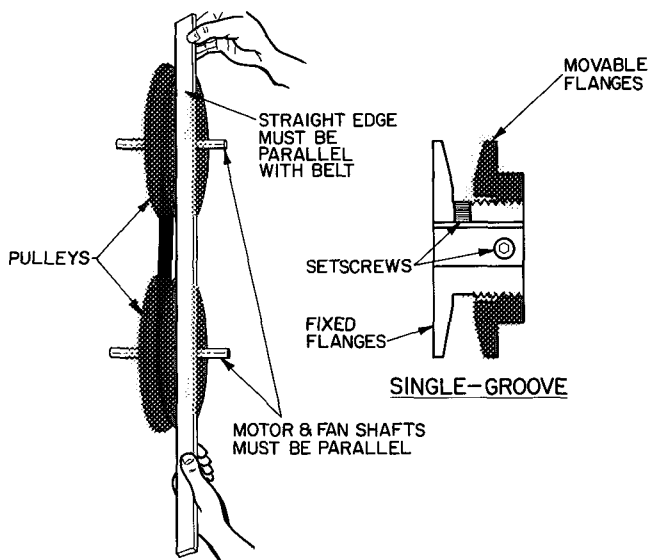

Fig. 8 — Pulley Adjustment
2. Loosen pulley movable flange setscrews (Fig. 8).
TO ALIGN FAN AND MOTOR PULLEYS — Loosen fan pulley setscrews and slide fan pulley along fan shaft. Make angular alignment by loosening motor from mounting plate. Check alignment with a straight edge (Fig. 8).